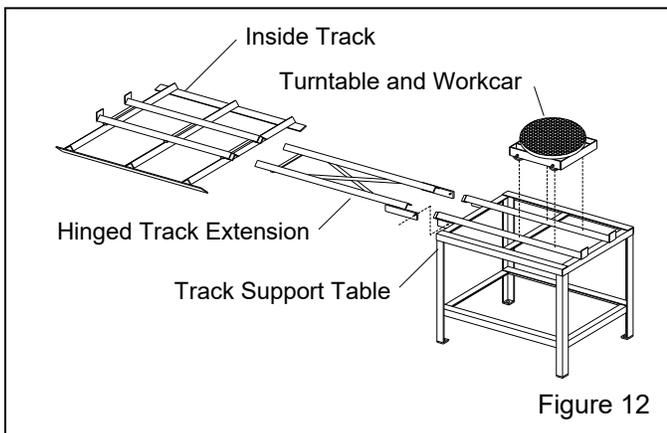

Figure 12
3.4.1 Components of the turntable and track assembly are shown in Figure 12. The assembly consists of: